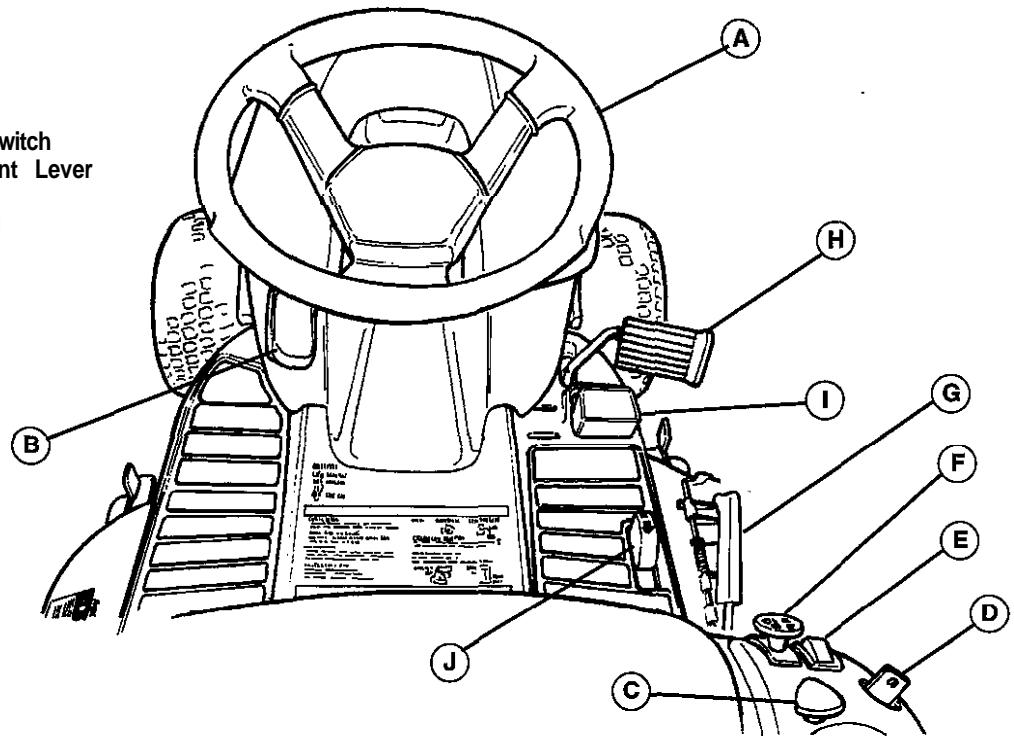

Figure 2. Tractor & Mower Controls - Hydro Model
*NOTE: Once the engine has stopped, the PTO switch (F, figures 2 & 3) must be turned off after operator returns to the seat in order to start the engine.*
2. Set engine throttle control (B, figures 2 & 3) all the way up to CHOKE. A warm engine may not require choking.
3. Disengage the PTO by pushing the switch all the way down (F, figures 2 & 3)
4. **On hydro models**, with your foot off the pedals (I & J, figure 2) the tractor is in the neutral position.
5. Insert the key into the ignition switch (D, figure 2 & 3) and turn it to START.
6. Move the engine throttle control (B, figures 2 & 3) to SLOW. Warm up the engine by running it for at least a minute before engaging the PTO switch or driving the tractor